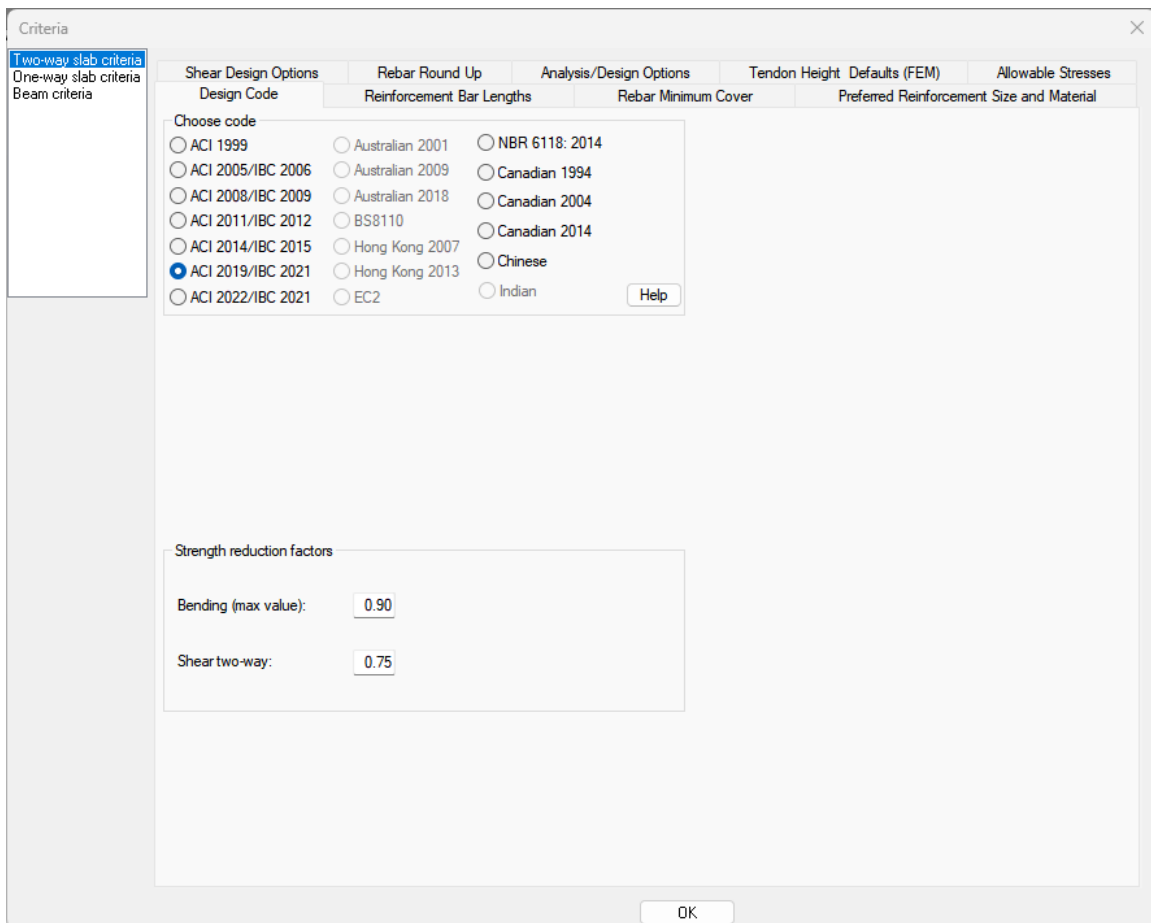

FIGURE 2-10
- Go to *Criteria->Design Criteria* and click on the **Design Code**  icon. This will open the *Criteria* window from **FIGURE 2-10**.